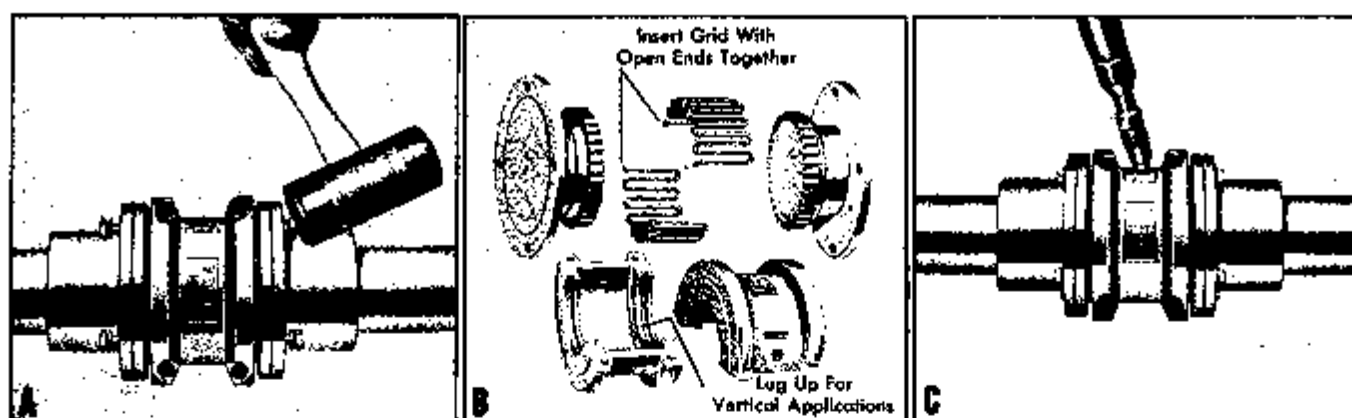

FIGURE 23
GRID TYPE (Ref. Figure 23 and 23A) COUPLING ALIGNMENT
1. Remove lube plugs and all but two cap screws in each hub opposite each other. Loosen these about one-quarter inch and tap them with a mallet to disengage spacer from the shaft hubs. Remove cap screws and spacer. See A, Figure 23.